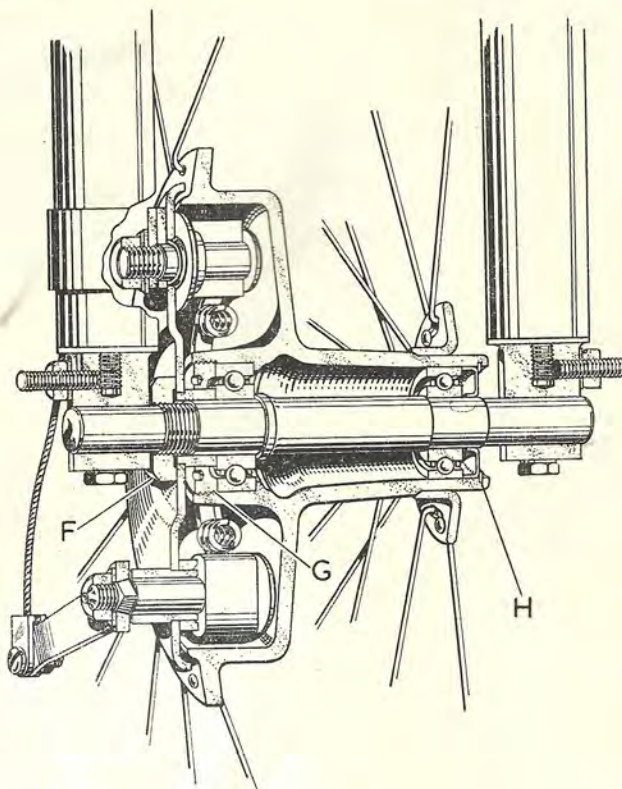

Fig. D30.
Unscrew the large nut (F) Fig. D30 on the spindle. This will be facilitated if the brake is applied by using a short length of tubing, such as a box spanner, over the brake arm.
Make sure that the cover plate nut (F) Fig. D30 is securely tightened, engage the torque arm bolt of the cover plate in the clip on the right-hand fork leg and replace the fork end clips. Before finally tightening the clip bolts pull the wheel towards the right-hand fork leg.